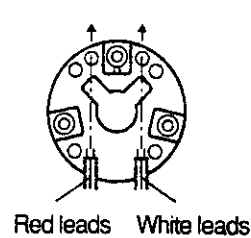

Fig. 3
9. Secure a new heating element (24V-60W) to the flange with screws (5), (6), (7). Install the heater in such a way that the lead wires are oriented as in Fig. 3.